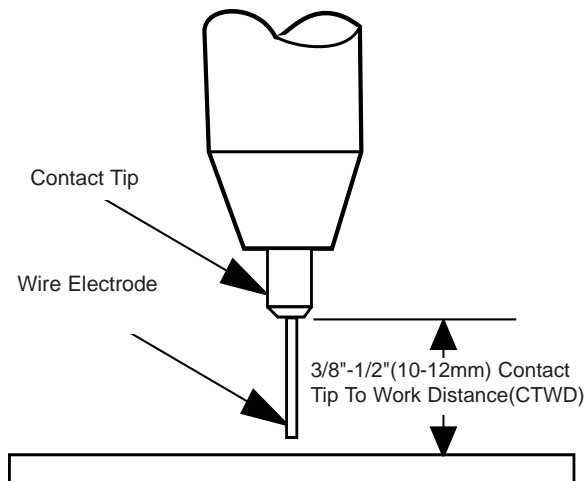

Figure B.6
- Cut the wire off 3/8" – 1/2" (10 – 12 mm) from the end of the tip. The WELD-PAK 3200HD is now ready to weld. (Refer to figure B.6)